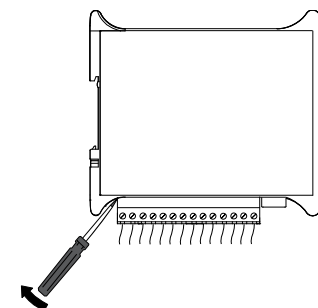

Fig. 4 Quick replacement of terminal blocks
- Take off the terminal blocks without disconnecting the wires (Fig. 4)
- Insert a screwdriver into the eyelet of the slide interlock (Fig. 4)